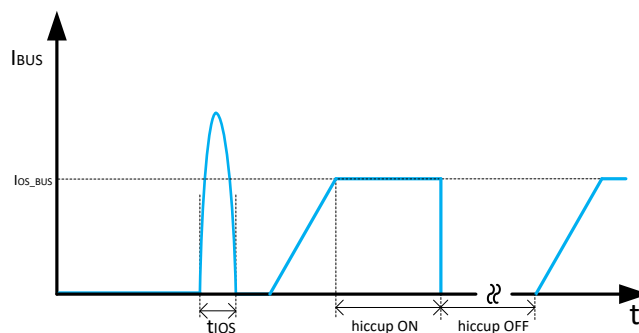

Figure 10-5. Response Time to BUS Short-Circuit
- The first condition is when a short circuit or overload is applied to the USB output when the device is powered up or enabled. There can be inrush current and once it triggers the approximate 8-A threshold, a fast turnoff circuit is activated to turn off the USB power switch within t_{IOS_USB} before the current limit control loop is able to respond (shown in Figure 10-5). After the fast turnoff is triggered, the USB power switch current-sense amplifier is over-driven during this time and momentarily disables the internal N-channel MOSFET to turn off USB port. The current-sense amplifier then recovers and ramps the output current with a soft start. If the USB port is still in overcurrent condition, the short circuit and overload hold the output near zero potential with respect to ground and the power switch ramps the output current to I_{OS_BUS}. If the overcurrent limit condition lasts longer than 4.1 ms, the corresponding USB channel enters hiccup mode with 524 ms of off-time and 4.1 ms of on-time.